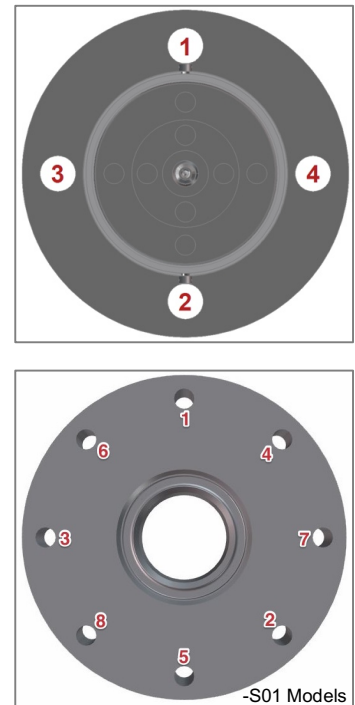

Figure 3-2 Tightening Sequence
- 3.1.10 Install the nuts and tighten them in 1/3-torque increments in a diagonally alternating sequence, as shown in Figure 3-2. Consult gasket manufacturer for recommended torque requirements.